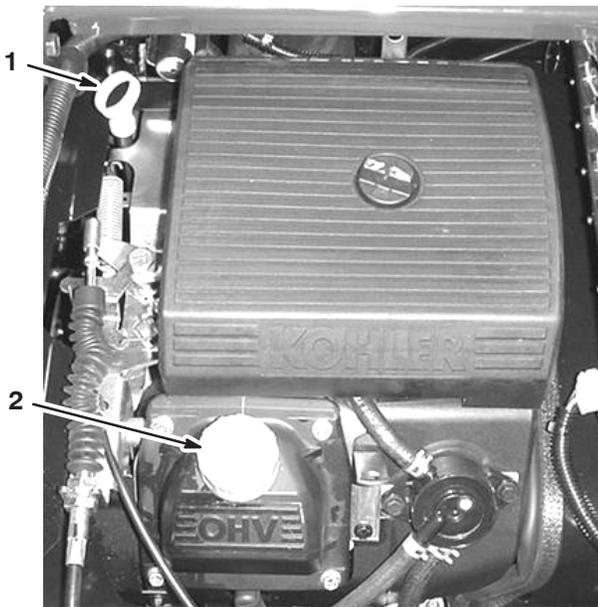

Figure 6
2. Remove the dipstick and wipe it with a clean rag (Fig. 6). Insert the dipstick into the tube and make sure it is seated fully. Remove the dipstick and check the oil level.
3. If the oil level is low, remove the filler cap from the valve cover (Fig. 6) and pour oil into the opening until the oil level is up to the Full mark on the dipstick; refer to Servicing Engine Oil, page 34, for the proper oil type and viscosity. Add the oil slowly and check the level often during this process. **Do not overfill.**